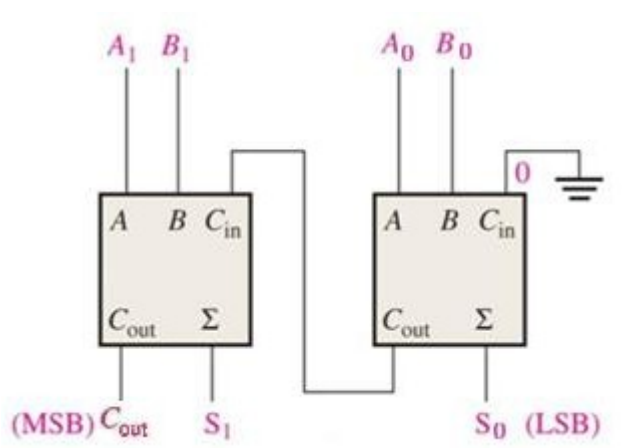

Figure 4.2 - Block diagram
Implement the logic diagram provided in Figure 4.2. on the breadboard. Two full adders are cascaded where Carry-in of first full stage adder is grounded and Carry_{out} is connected to the Carry-in of second stage Full Adder.
3. Make necessary changes in the previous adders as per Figure 4.2.